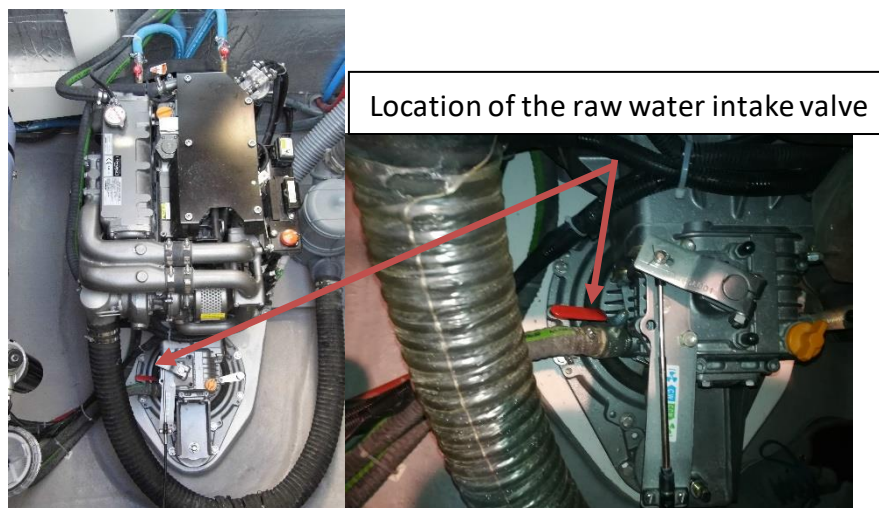

Figure 9 : Location of the raw water intake valve
- Close the raw water cooling intake valve (Figure 9),